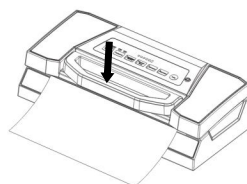

Fig.2
4. Put the top cover down and press front handle to lock the top cover.- **Fig.2**